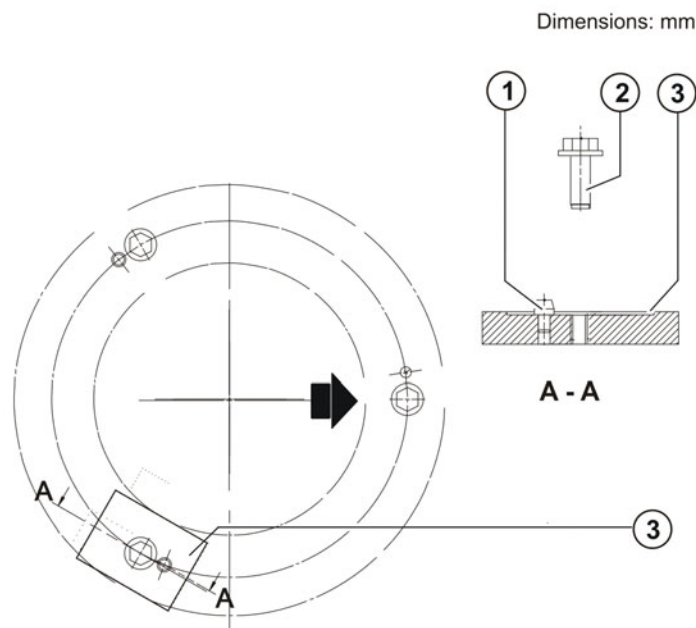

Fig. 8-2: Machine frame mounting
1. Clean the mounting surface (>>> Fig. 8-2) of the robot.